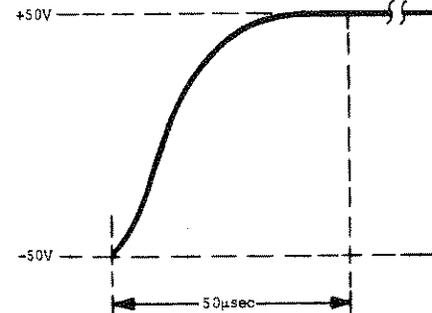

Figure 5-8. Typical Programming Speed Waveforms
e. Adjust oscilloscope to observe rise time of one square wave. The wave shape should be within the tolerances shown on Figure 5-8 (output should change from maximum rated negative value to maximum rated positive value in less than 50 microseconds).